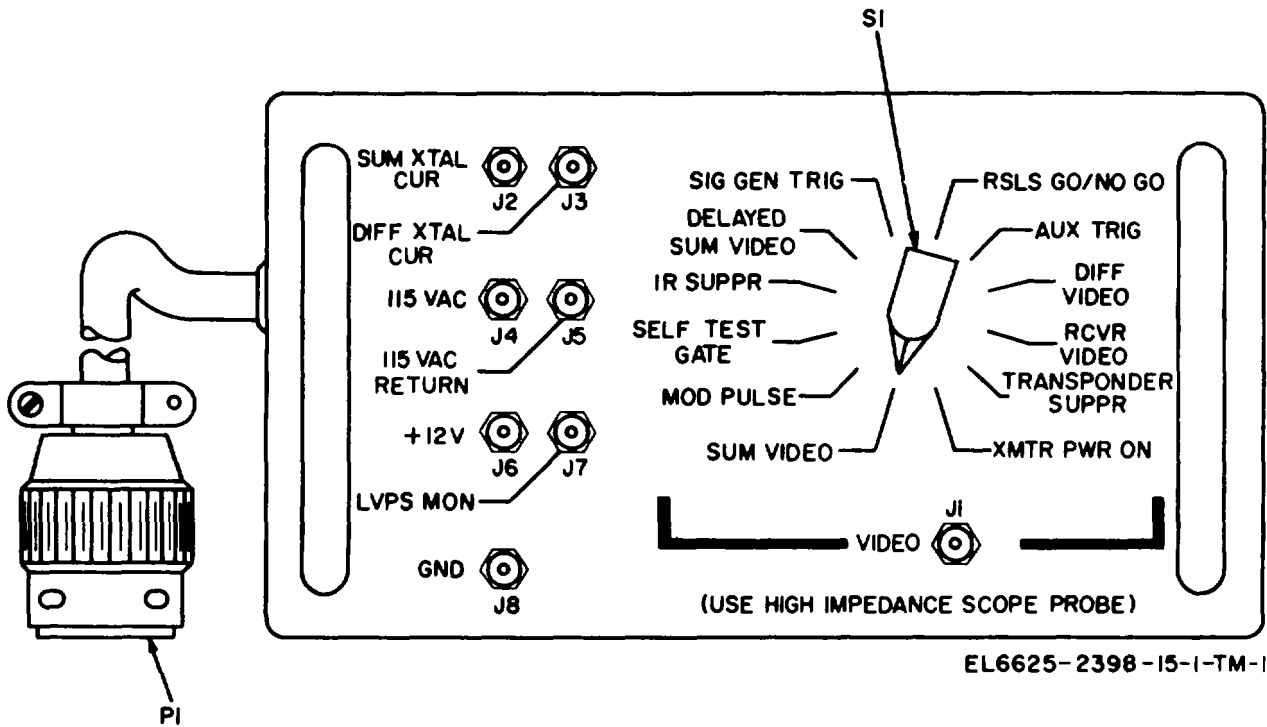

Figure 3-1. Hybrid attenuator A1, operating control, connectors, and cable.
**3-1. Hybrid Attenuator A1, Operating Control, Connectors and Cable** (fig. 3-1)